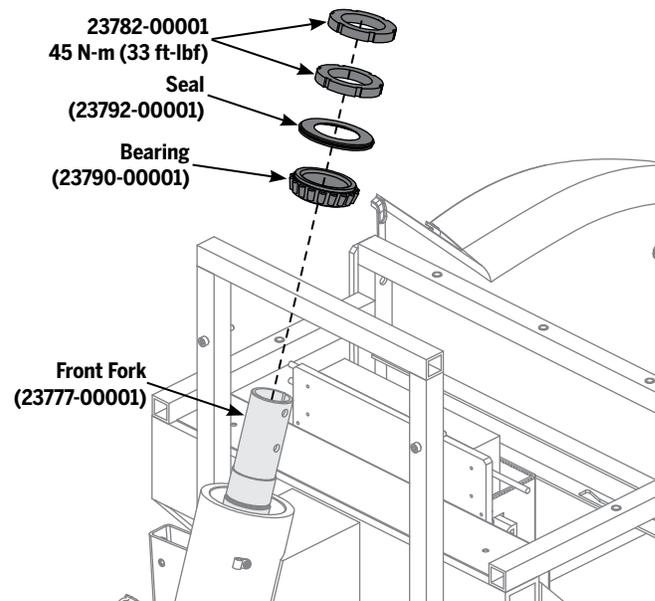

Figure 139: Front Fork Collars
4. Using an SKF HN 8-9 spanner wrench, remove the two collar rings as shown in Figure 139.
5. Install the bearing and seal as shown in **Figure 139**.